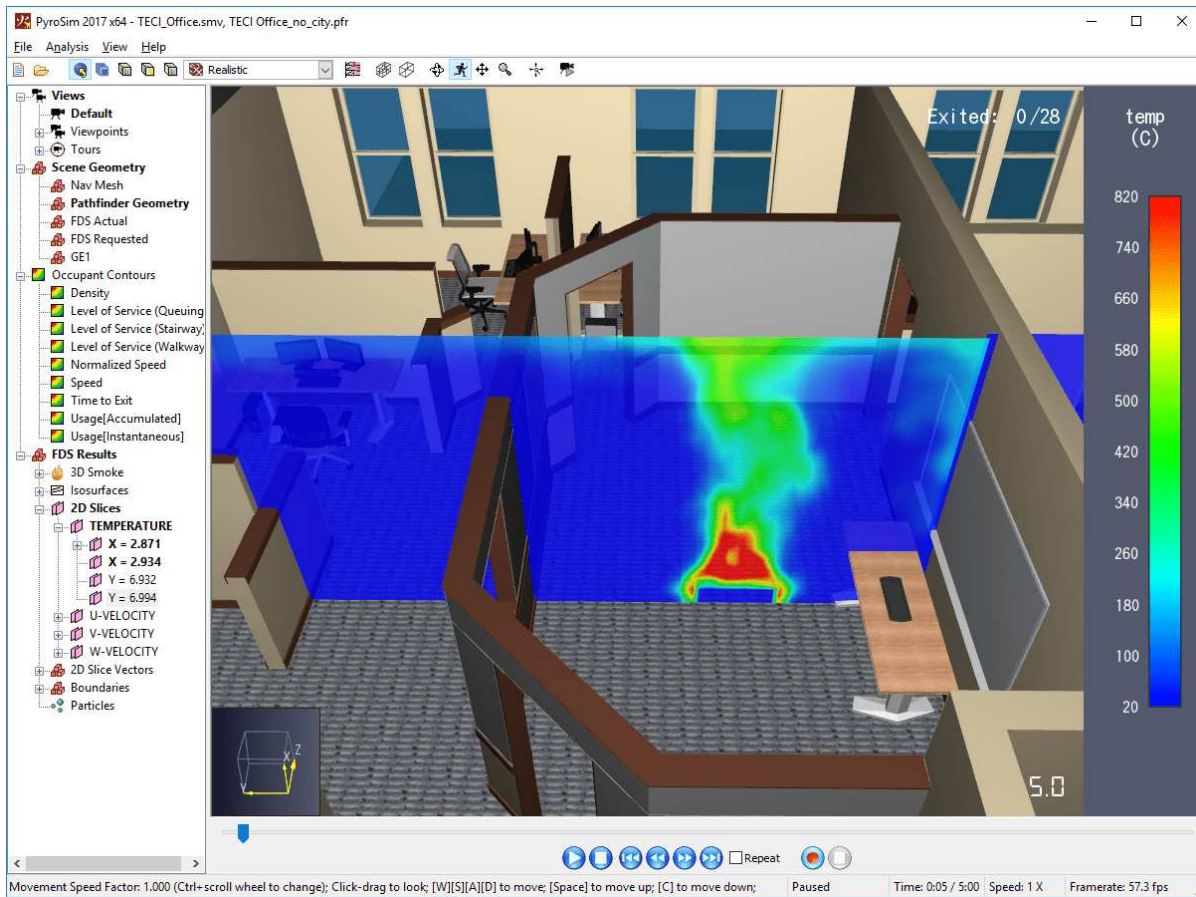

Figure 51. Results colorbar
- If necessary, a colorbar is added to the right side of the main window as shown in Figure 51. The colorbar can be edited as described in Section 6.3.
Nearly all FDS and Pathfinder results data are colored with a colormap (exceptions include 3D Smoke, Particles viewed with the **Default** coloring, and some occupant coloring options). A colormap provides a way to map data values to a color that can be displayed on the screen. When a colormap is in use, it will be shown as a colorbar on the right side of the 3D View as shown in Figure 51. If both FDS Results and Pathfinder occupant contours are displayed at the same time, there may be multiple colorbars displayed at once.
The colorbar shows the colormap as well as which data values are mapped to the colors. At the top, it also shows an abbreviation of the quantity and the quantity's unit in parentheses. In Figure 51, the label "temp" corresponds with the quantity, **TEMPERATURE**, and the unit is **C** for degrees Celsius.